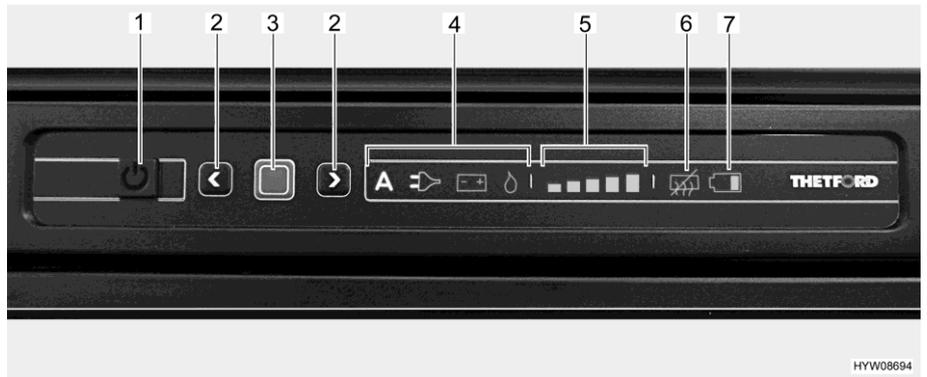

Fig. 144 LED operating panel (Thetford refrigerator)
- Press and hold the On/Off button (Fig. 144,1) for 1 second. The button lights up green. To save energy, after approximately 10 seconds the display is dimmed.
- Press confirmation button (Fig. 144,3). The operating mode previously selected is displayed.
- Press and hold the confirmation button (Fig. 144,3) for about 2 seconds. The operating mode symbols flash.
- Manual power selection: use the arrow keys (Fig. 144,2) to select the desired energy source.
- Automatic power selection (only version with automatic power selection): use the arrow keys (Fig. 144,2) to select the operating mode "A".
- Confirm your selection with the confirmation button (Fig. 144,3).
- Press confirmation button (Fig. 144,3) again. The cooling level indicator (Fig. 144,5) flashes.
- To change the setting, press the arrow keys (Fig. 144,2) until the desired setting is displayed.
- Press and hold the On/Off button (Fig. 144,1) for about 2 seconds. All lights go out. Refrigerator is switched off.
After switching it on, the refrigerator automatically selects the previously selected thermostat position. This position can be adjusted manually by using the arrow keys (Fig. 144,2). It takes a few hours till the refrigerator reaches its normal operating temperature. When changing over to another operating mode, the thermostat setting is kept.